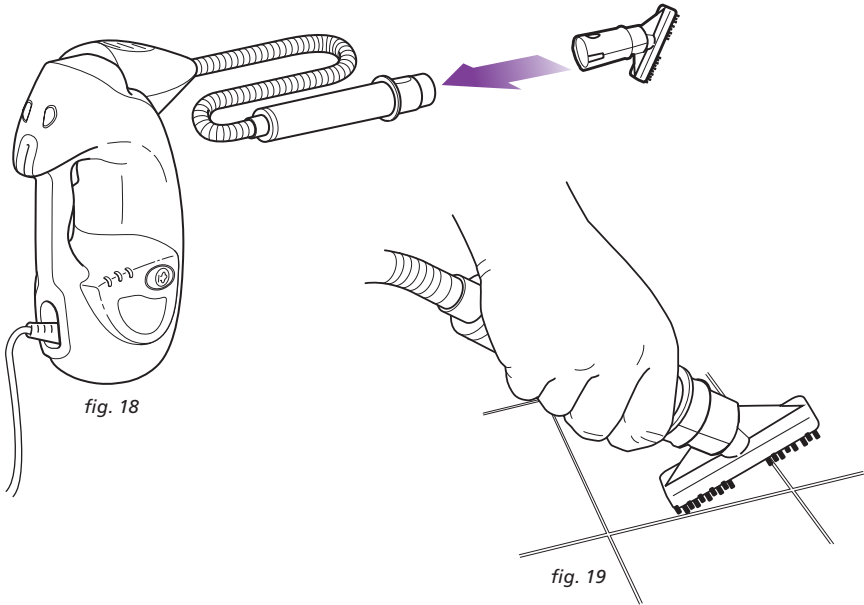

fig. 18
- 1 Attach the Crevice Tool by snapping into the handle of the Accessory Hose. (fig. 18)